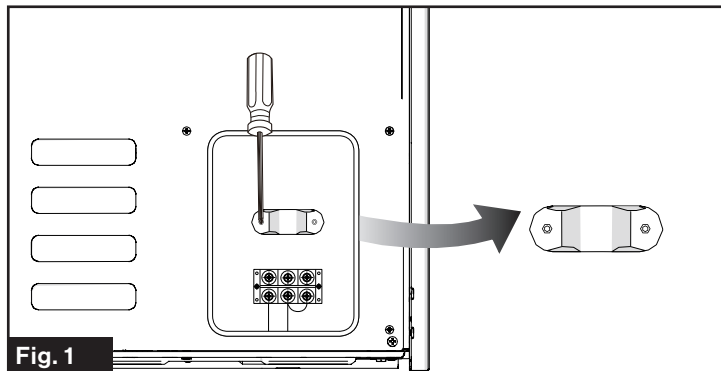

Fig. 1
1. Remove the strain relief and connector cover using a Phillips screwdriver. (Fig. 1)